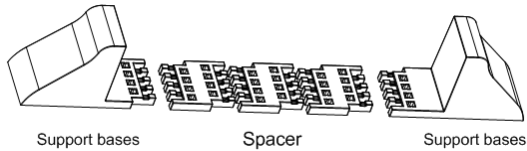

Fig.4-2 Installing support bases with spacers
Step 2: If optional external battery cabinets are connected to the UPS to provide additional battery run time, assemble the spacers and the support bases, as shown in Fig.4-2.